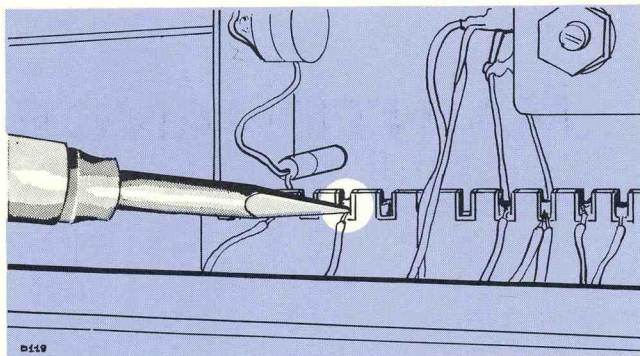

Fig. 4-2 Applying soldering iron tip to ceramic strip
4. Apply one corner of the tip to the notch where you wish to solder (see Fig. 4-2).